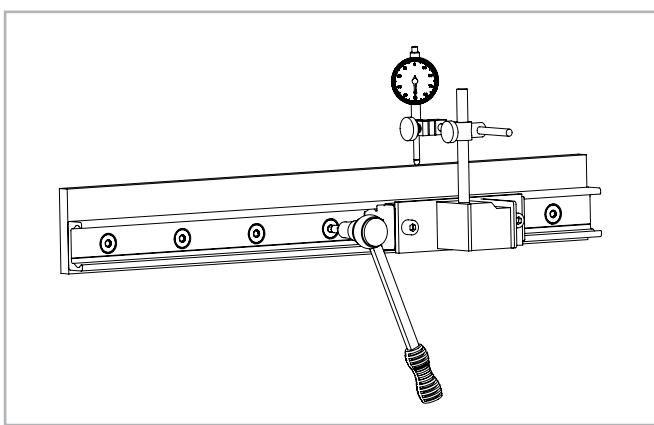

Fig. 161
(2) Install a dial indicator so that the offset of the rail to a reference line can be measured. Now position the slider in the center of the rail and set the dial indicator to zero. Move the slider back and forth between each two hole spacings and carefully align the rail. Fasten the three center screws of this area now with the the specified tightening torque, see pg. fig. 161.
(3) Now position the slider on one end of the rail and carefully align the rail to zero on the dial indicator.